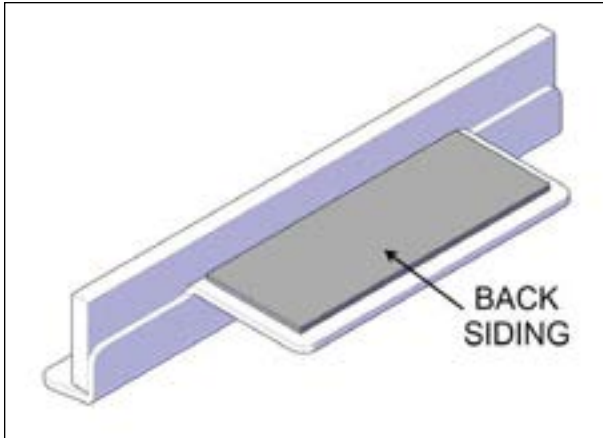

FIGURE 68: WIPER
2. Peel back the red siding of the double-sided tape of one wiper see Figure 68.